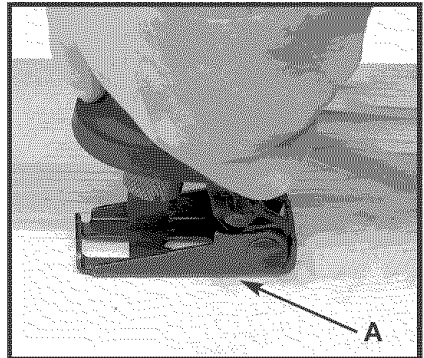

Fig. 10
The saw is supplied with a keyless quick-change guide shoe. The pivoting guide shoe (A) **Fig. 10**, serves as a rest while making a cut and it can be adjusted to accommodate many types of cutting applications.